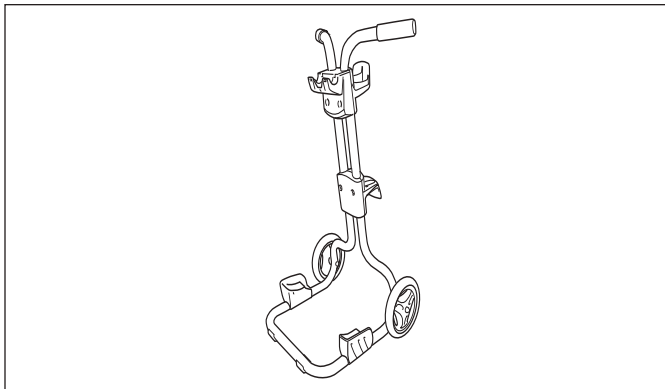

Figure 12. Transport and Storage Caddy Assembled
9. The transport caddy is now ready to use as shown in Figure 12.